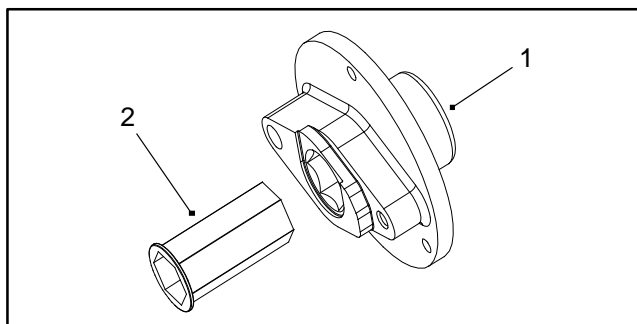

Figure 13
4. If hub does not contain a hub bushing (Fig. 13), apply anti-seize lubricant to the exposed end of the wheel shaft.